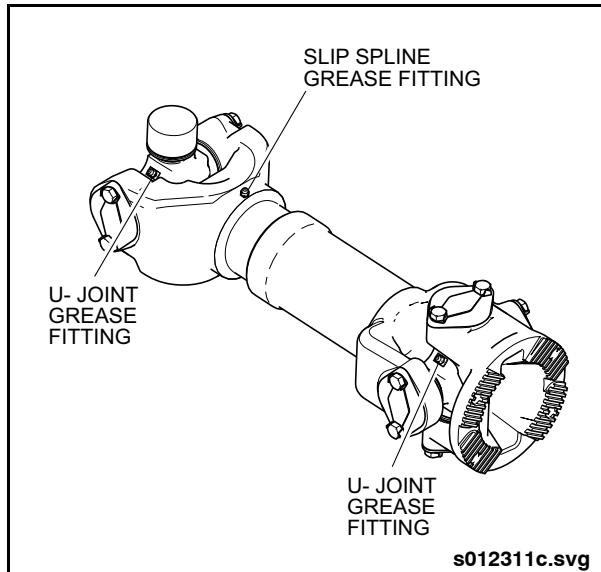

Fig. PM-5: Driveshaft Lubrication Points
1. Purge lubricate the universal joint by hand-pumping grease into the u-joint grease fitting until grease emerges from all four sealing lips. Do not exceed 5,000 psi grease pressure, otherwise the bearings will be over-pressurized. Refer to Fig. PM-5: "Driveshaft Lubrication Points" on page 28